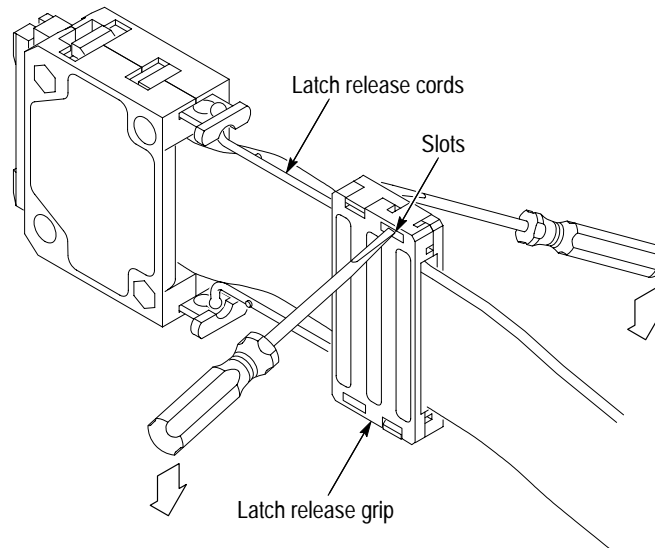

Figure 13: Disassembling the latch release grip
1. Use two small flat-bladed screwdrivers in the slots opposite the tabs on each side of the grip as shown in Figure 13.